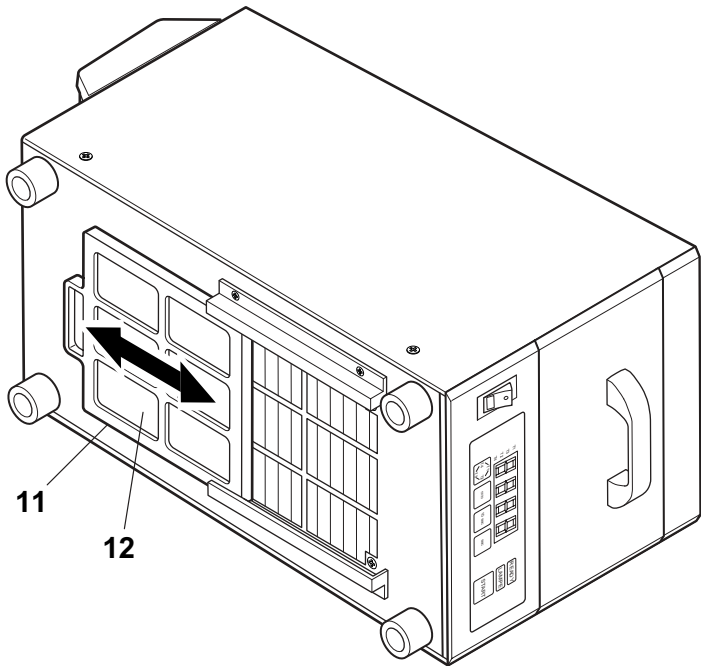

Fig. 6
- Place device on its side (fig. 6, p. 12)
- Pull out filter holder (11) towards back.
- Take out dust filter (12) and clean it (blow through) or change it.